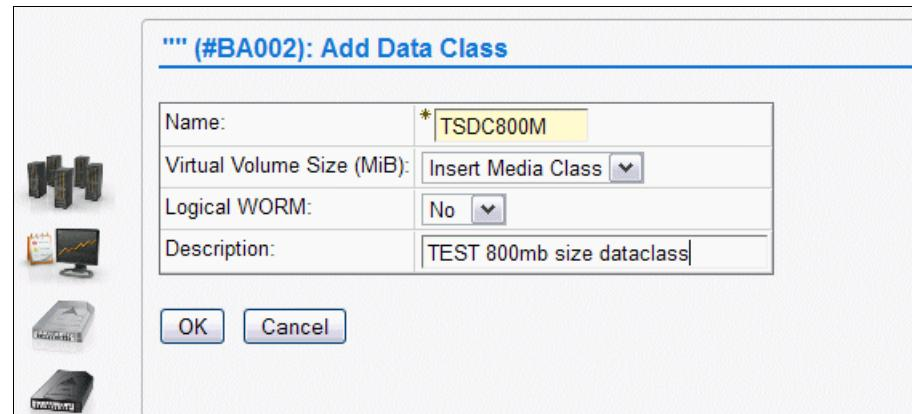

Figure I-7 Data Class for TEST
3. Define a DC for TEST named TSDC800M, as shown in Figure I-7.